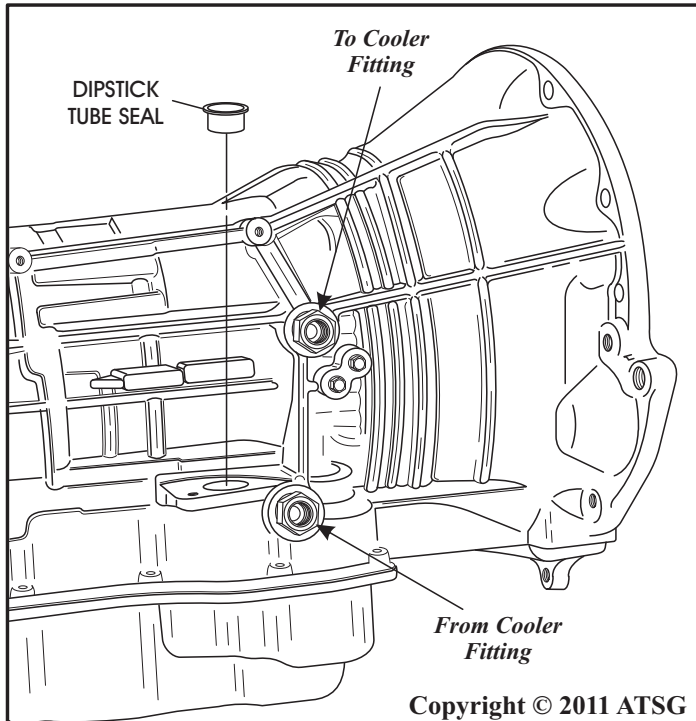

Figure 168
57. Install a new dipstick tube seal into transmission case bore, as shown in Figure 168.
58. If they were removed, install both cooler line fittings into case, as shown in Figure 168, and torque to 17.5 N·m (13 ft.lb.).